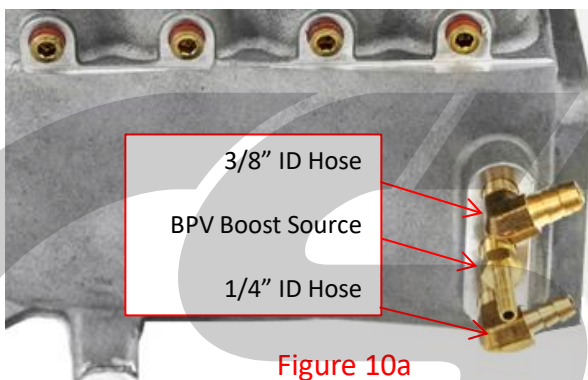

Figure 10a
- a) Connect supplied small (1/4" ID) vacuum hose to lowest 90 degree barb fitting as shown in Figure 10a and 10c.
- c) Connect supplied large (3/8" ID) vacuum hose to highest 90 degree barb fitting as shown in Figure 10a and 10c.